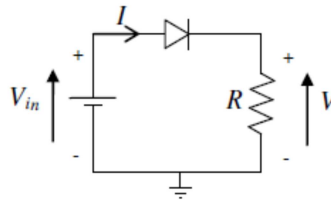

Figure 10 – LED driving circuit analysis
- 1) Select resistor R_1 and a signal generator output voltage so that the current through the LED is of the order of 30 mA. The circuit used to drive the LED can be illustrated as in Figure 10. Note that the source for this circuit is the Signal Generator